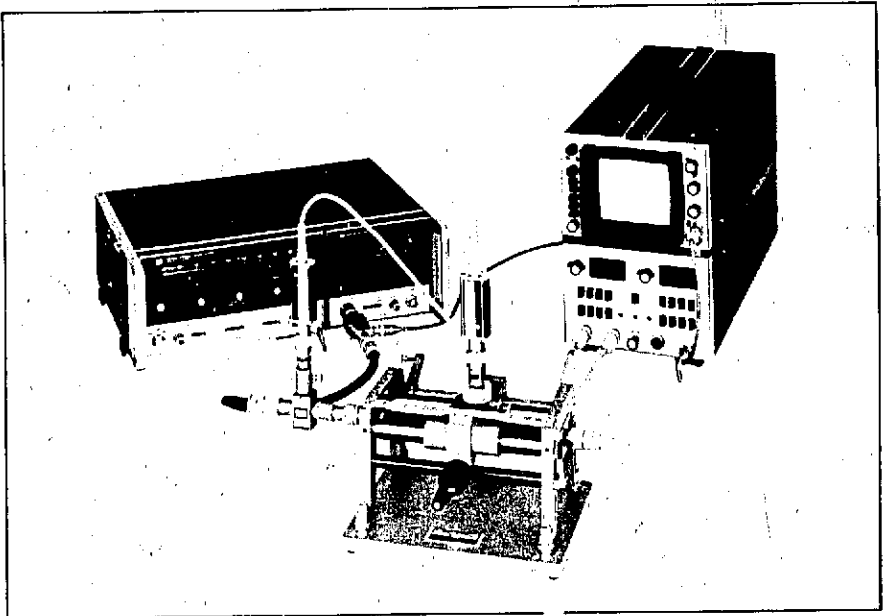

Figure 1. Model 817B Connected in a Measurement System
30. The Model 817B is connected in a measurement system as shown in Figure 1. Both the probes and detectors are interchangeable but some precautions are necessary when handling them as described in the following paragraphs.